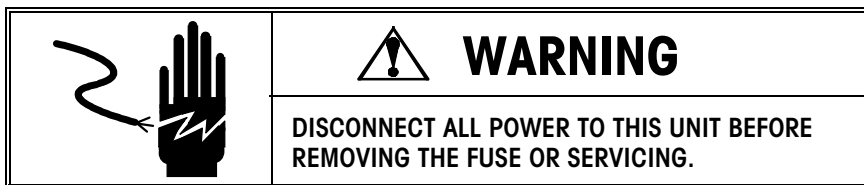

**Figure 7-17 Center Clamp**
4. Remove the two screws (Item 54, Figure 7-17) holding the sensor flag (Item 19, Figure 7-17) in place. Note that there is an access hole in the machine frame near the upper left corner of the infeed opening.
6. Remove the Center Clamp from the machine by removing the 4 retaining screws (Item 53, Figure 7-17). Slide the Center Clamp assembly out the left side of the machine.